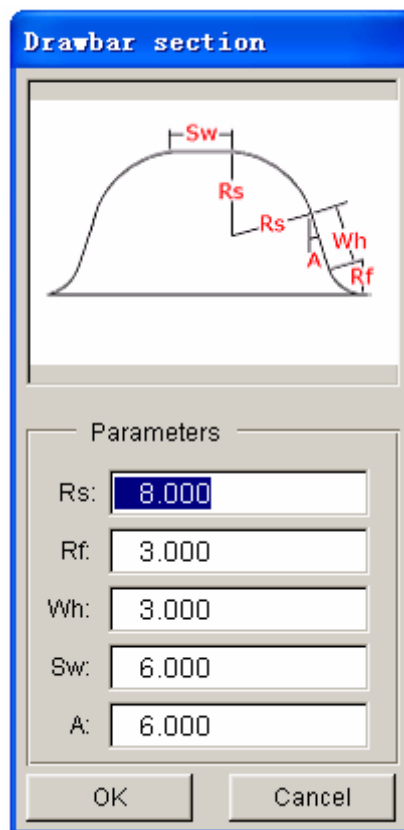

Figure 6.5.9 Parameters for Tear Drop Head
1. DRAW BAR ENDS WITH A SPHERICAL SHAPE (TEAR DROP HEAD). Figure 6.5.9 shows the control parameters in the dialog box.
- Click on the PARAMETERS button to display the corresponding dialog box as illustrated in Figures 6.5.9-6.5.11.